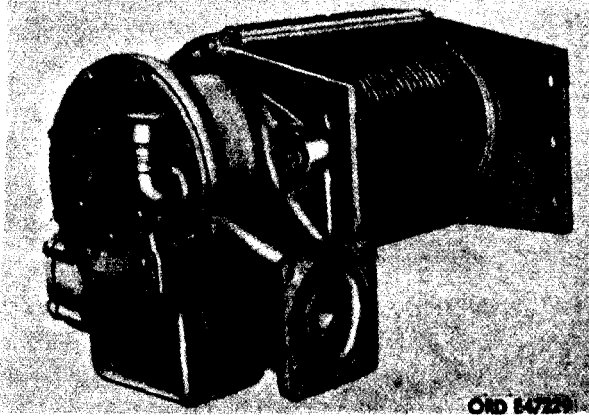

Figure 441. Hoist drum and worm and drive gear set
[Fig. 441)
- (1) General. No special tools beyond normal maintenance shop facilities are required for disassembling the hoist drum and worm and drive gear set (fig. 441). An overhead crane will be of great help in this operation.